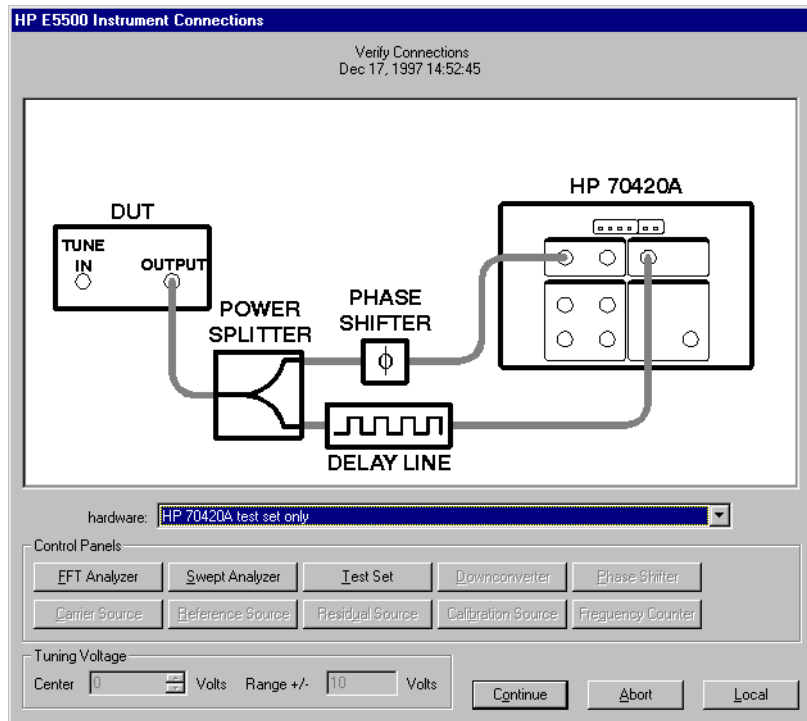

Figure 11-27 Setup Diagram for the FM Discrimination Measurement Example
- 4 When the **Connect Diagram** dialog box appears, confirm your connections as shown in Figure 11-27. The Agilent 70420A test set's signal input is subject to the following limits and characteristics: